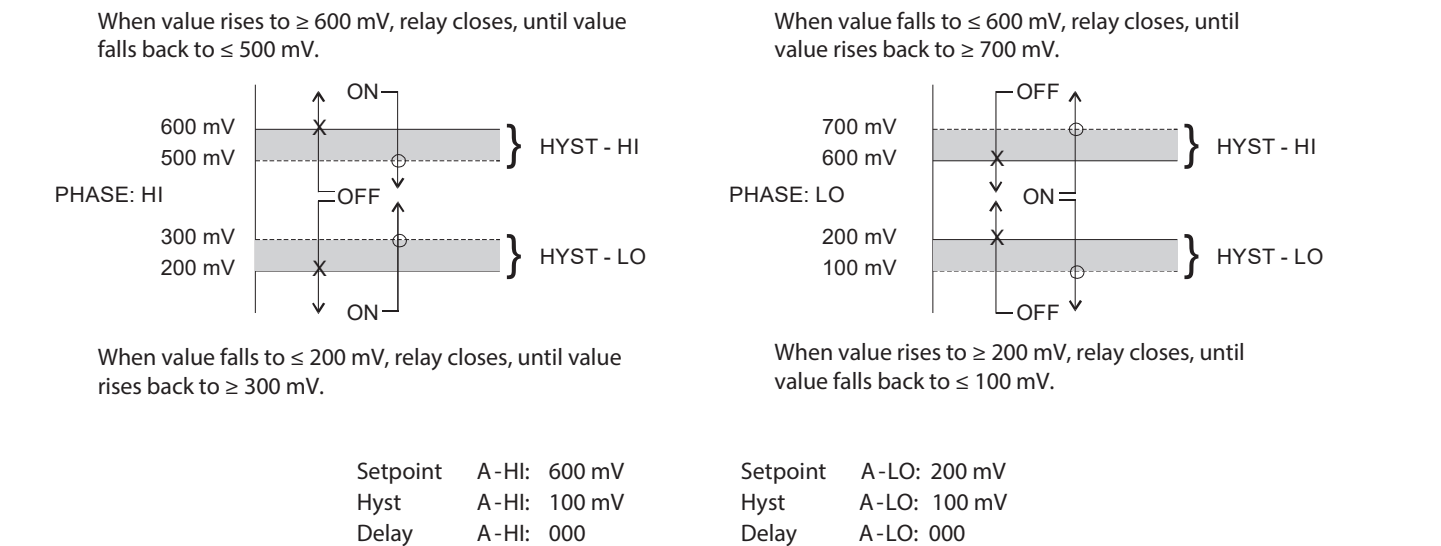

Figure 31: Alarm relay example
- The *AL* setting allows two setpoints to be selected for the same relay, producing a HI-LO alarm band. In this mode, Relay A trips inside or outside of the band, depending upon the phase selected. See Figure 31 on page 42 for details.
- The *FAIL* setting enables the fail alarm mode for Relay B. Relay B will then trip on any condition that causes the *FAIL* icon to be displayed on the LCD. Using this mode allows the User to send alarm indications to other remote devices See Figure 31 on page 42 for details.
- The *FAIL* setting enables the fail alarm mode for Relay B/C. Relay B/C will then trip on any condition that causes the *FAIL* icon to be displayed on the LCD. Note that the Relay C indicator shows up only on the lower screen of the display next to the temperature reading. This is because the default setting for relay C is the *FAIL* setting. Using this mode allows the User to send alarm indications to other remote devices. See Figure 31 on page 42 for details
See Figure 31 for a visual description of a typical control relay application.
Figure 31 is a visual description of a typical alarm relay application.